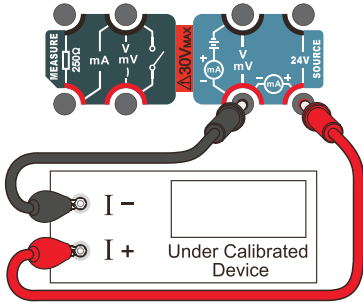

Figure 9.12 Current source
1. User can refer to Figure 9.12 to connect all the test leads and begin to source.